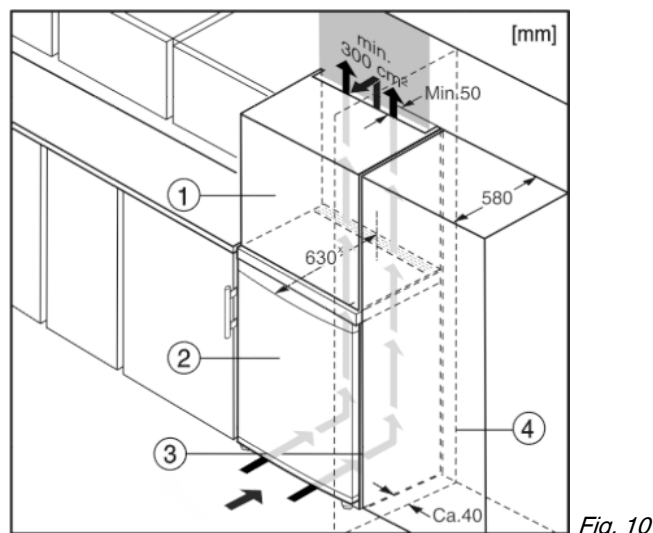

Fig. 10
The appliance can be built into kitchen units. A top cupboard Fig. 10 (2) can be added above the appliance in order to bring the appliance Fig. 10 (1) up to the height of the fitted kitchen units.
When installing with kitchen units (max. depth 580 mm), the appliance can be positioned directly next to the kitchen cabinet Fig. 10 (3). The appliance will project by 34 mm* at the sides and 50 mm* in the centre of the appliance in relation to the kitchen cabinet front.
If the appliance is installed with the hinges next to a wall Fig. 10 (4), the distance between appliance and wall has to be at least 40 mm. This corresponds to the projection of the handle when the door is open.